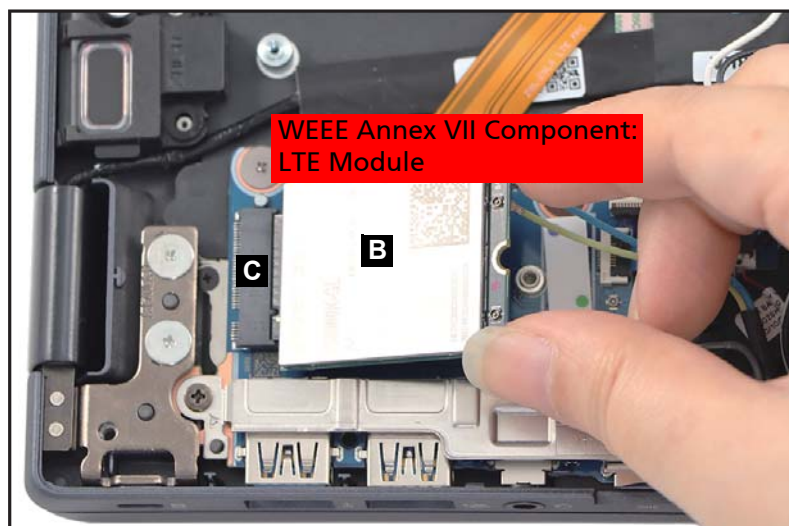

Figure 1-17. LTE Module Removal
3. Disconnect the LTE module (B) from the mainboard connector (C) (Figure 1-17). Then remove the LTE module.